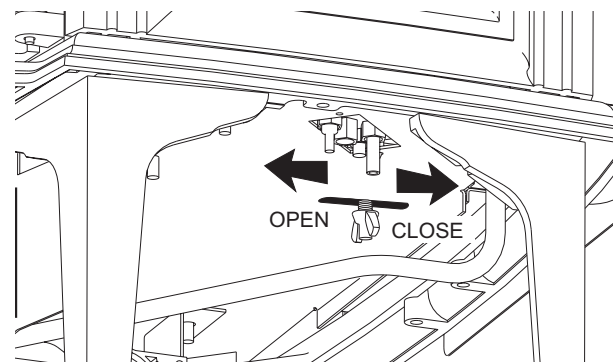

Figure 26.
18. Adjust the Air Shutter: Replace the gasket disk and fender washer on the shutter stem. See fig. 26. Pushing the shutter stem back will restrict air to the burner. Pulling the shutter forward will increase air. Set the stem at the half-way point in its adjustment travel. You will need to experiment to find the best setting for your particular installation. The shutter is set at the halfway position at the factory.
1. Locate and loosen the adjustment stem wing nut protruding from the bottom of the firebox, directly behind the gas valve. See fig. 26.